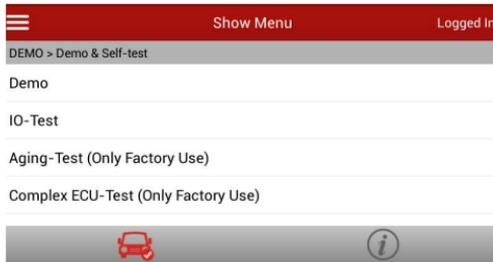

Fig. 5-10
2. Tap “Confirm” to enter the demo menu interface. See Fig. 5-10.